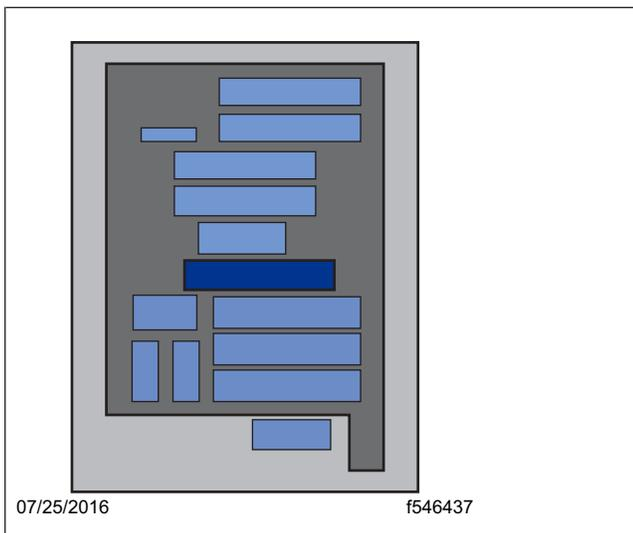

Fig. 1, IPPC ECU Location (schematic)
6. Position the new integrated predictive powertrain control (IPPC) ECU (000 446 41 75) in the electronics bay, as shown in **Fig. 1**, then press the ECU firmly towards the back of the shelf. See **Fig. 2**.